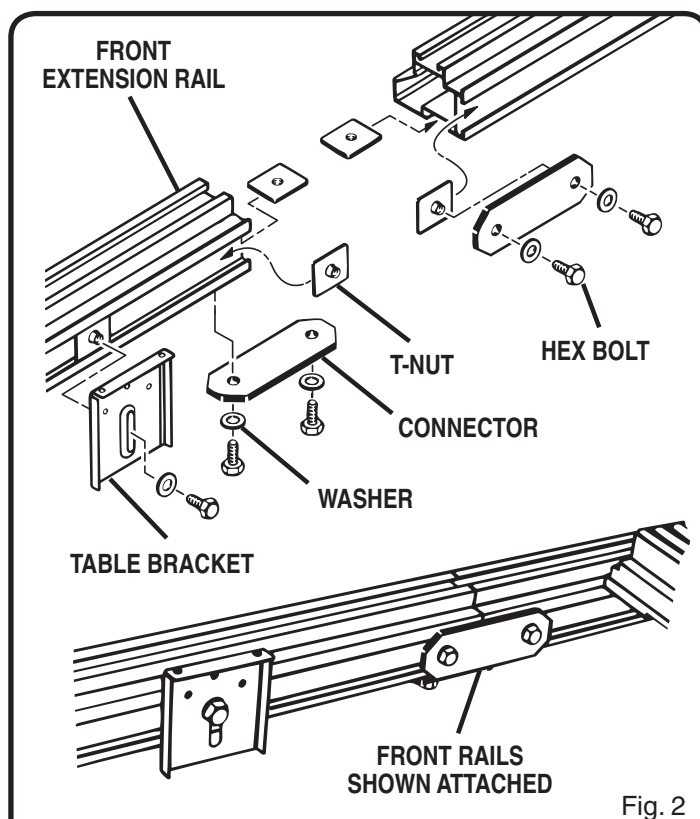

Fig. 2
See Figures 2 and 4.
- Slide two T-nuts into channel on rear portion of front extension rail. See Figures 2 and 4.